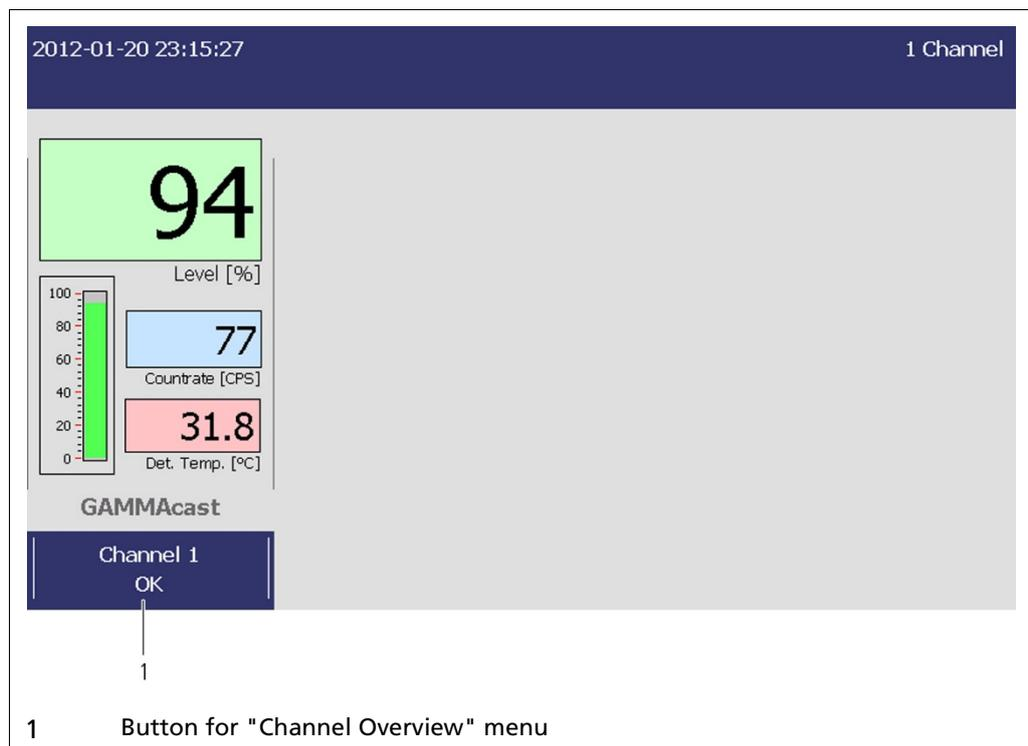

Fig. 51 Start page with a channel
1. Click on the button **<Channel XY>** in the standard display (Fig. 51, Item 1) to reach the "Channel Overview" menu.